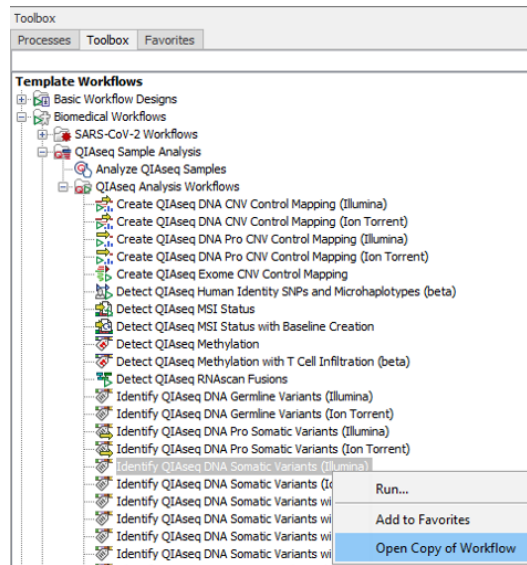

Figure 2: Open a copy of the workflow "Identify QIAseq DNA Somatic Variants (Illumina)".
- In the Toolbox at the bottom, left side of the Workbench, right-click on the name of the **Identify QIAseq DNA Somatic Variants (Illumina)** workflow and click on **Open Copy of Workflow** (see figure 2).